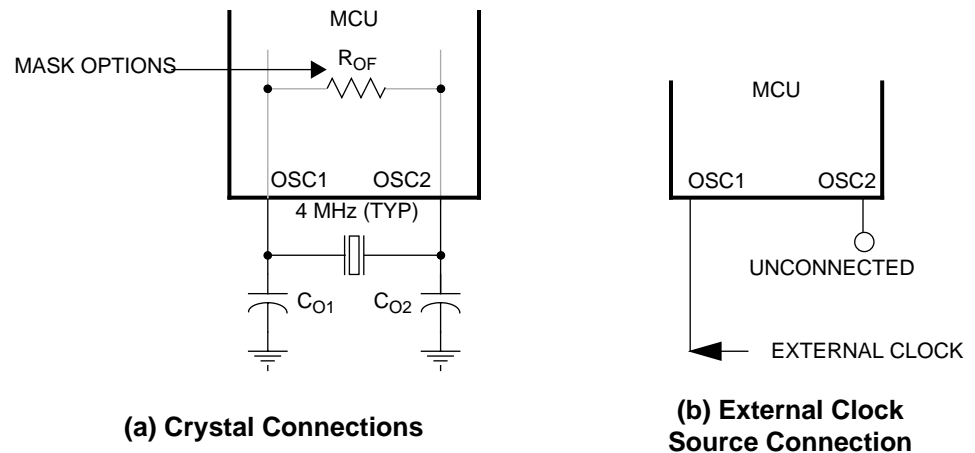

Figure 1-3. Oscillator Connections
- A crystal as shown in **Figure 1-3 (a)**
- An external clock signal as shown in **Figure 1-3 (b)**
The circuit in **Figure 1-3 (a)** shows a typical 2-pin oscillator circuit for an AT-cut, parallel resonant crystal. The crystal manufacturer's recommendations should be followed, as the crystal parameters determine the external component values required to provide maximum stability and reliable startup. The load capacitance values used in the oscillator circuit design should include all stray capacitances. The crystal and components should be mounted as close as possible to the pins for startup stabilization and to minimize output distortion. An internal startup feedback resistor of R_{OF} between OSC1 and OSC2 may be selected as a mask option for MC68HC05L5. Typical R_{OF} resistor value is 2 M Ω .
An external clock from another CMOS-compatible device can be connected to the OSC1 input, with the OSC2 input not connected, as shown in **Figure 1-3**. This configuration is possible regardless of how the oscillator is set up.